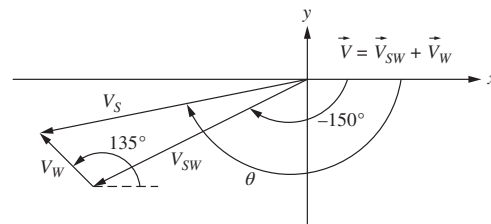

Figure P4.24 A ship crossing a river against the current.
- 4-24.** A ship is crossing a river at a heading of -150° with a speed of $V_{SW} = 30$ mph against the water as shown in Fig. P4.24. The river is flowing in the direction of 135° with a speed of $V_W = 10$ mph.